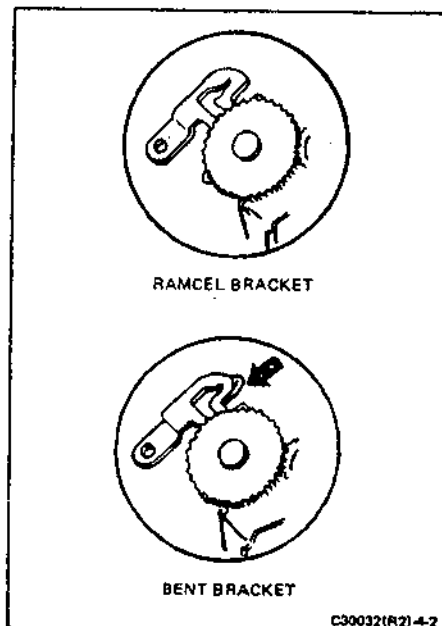

FIGURE 4-2 COMPARISON OF SPREAD ROLL BRACKETS
- b. Two vendors produce the spread system assembly bracket (see Figure 4-2). One vendor, Ramcel, makes the bracket with a retainer area which is not bent. The other vendor makes the bracket with a bent retainer area. Most of the loose front cover problems occur with the bent retainer area. Therefore, a simple solution is to replace the front cover or a spread system sub-assembly with one containing a Ramcel spread roller bracket. However, before doing this, try the repair procedure called out in paragraph c, below. (Do not scrap the original front cover since it is still usable on other cameras.)
- (1) Open the front cover.
- (2) Remove the gear train cover.